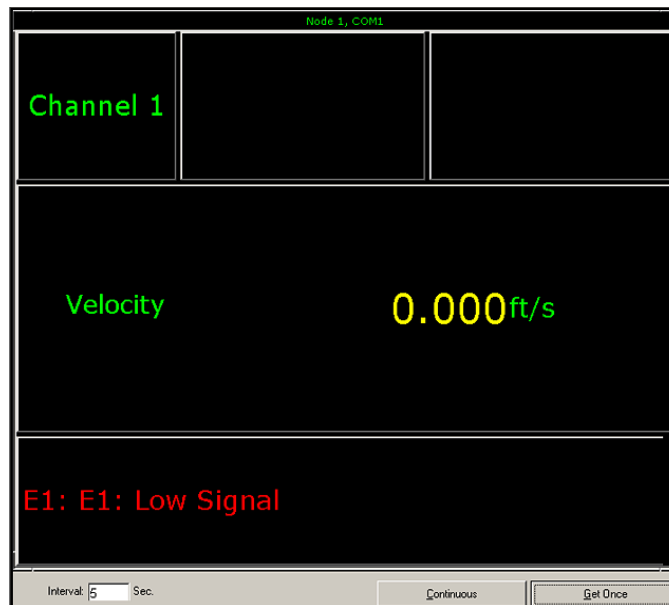

Figure 18: A Typical PanaView text display pane
The components of the PanaView text display are shown in *Figure 18* below, along with a typical flow rate readout.
As shown in *Figure 18*, the *PanaView* text pane includes the following information:
Note: As shown in *Figure 18*, Error Code messages may appear in the lower left corner of the *PanaView* text display window.
- Enter an *Interval* in the text box at the bottom of the right pane in the *Text Display* window, or check the *Max. Comm Rate* box to collect readings as fast as the system allows (i.e., 1 sec). Then, click on the **[Continuous]** option button to begin collecting data for display in the right pane of the *Text Display* window. The right pane now appears similar to *Figure 18*.